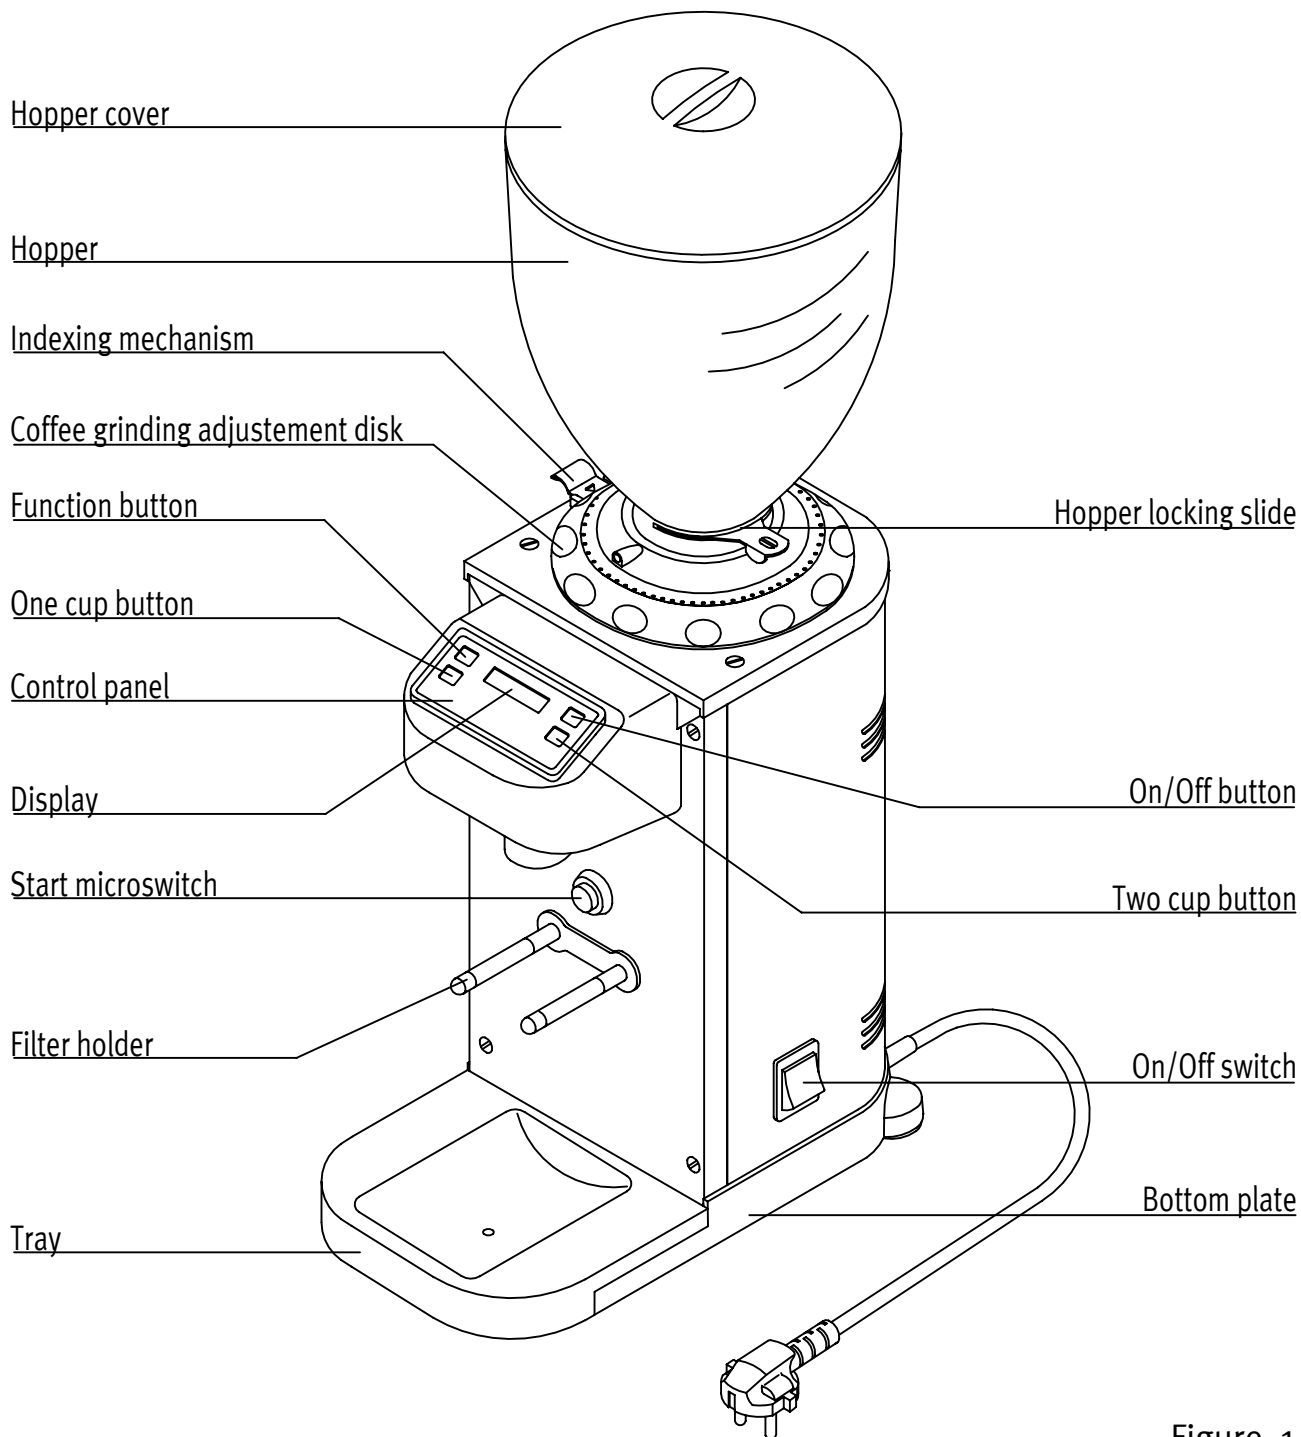

Figure. 1
- THE HOPPER MUST BE FASTENED TO THE GRINDER BY MEANS OF THE RELEVANT SCREW which must be inserted in the threaded hole located on the coffee grinding Adjustment disk (fig. 1).
Check that the hopper is positioned correctly on the appliance and secured to the Coffee grinding **Adjustment disk** with the relevant screw (fig.1). Close the Hopper locking slide (fig. 1) and fill the hopper with coffee beans. Open the slide to allow the coffee beans to fall in the grinding chamber.
Your new DKS-65 is delivered from the factory at a preset grinding of minimum fineness. Use the **Adjustment disk** located under the hopper (fig. 1), for obtaining a finer or coarser grinding result.
The Adjustment disk is functional only when the Indexing mechanism (fig. 1) is hold down.
The appliance's motor is protected against overheating by a thermal protection which, when tripped, cuts off the motor's power supply. If the protection trips as a result of anomalous operation, such as jamming the grinding blades, the appliance must be turned off using the ON/OFF switch (fig.1), DISCONNECTED FROM THE MAINS, AND CONTACT A LICENSED TECHNICIAN.
- Close the **Hopper locking slide** (fig.1).
- By keeping the **Indexing mechanism** pressed at all times, turn the **Coffee grinding adjustment disk** (fig.1) anti-clockwise until it is fully released.
- By keeping the **Indexing mechanism** pressed at all times, turn the **Coffee grinding adjustment disk** (fig.1) clockwise until it is tightly fastened.
- Check that the Coffee grinding adjustment disk indicator (fig.1) is close to 0.
- By keeping the **Indexing mechanism** pressed, turn the **Coffee grinding adjustment disk** (fig.1) anti-clock wise, until its indicator is indexed to 1.
- Start the machine by pressing the start micro switch (fig. 1), **JUST ONCE**. If you hear the sound of metal scraping turn the **Coffee grinding adjustment disk** (fig.1) anti-clock wise until its indicator is indexed to 2.
- Start the machine again by pressing the start micro switch (fig.1), **JUST ONCE** to make sure that you do not hear any sound of metal scraping.